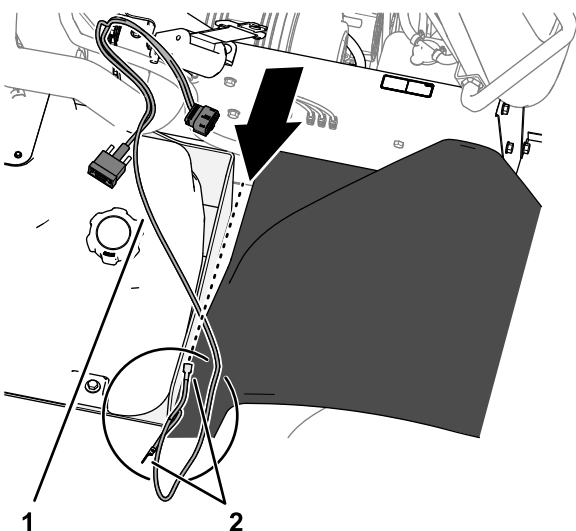

Figure 75
1. Between the fuel tank bracket and the right, front fender, route the tab terminal (labeled SWITCHED) and 2 ring terminals (labeled BATTERY and GROUND) of the modem power harness under the frame of the machine (Figure 75).